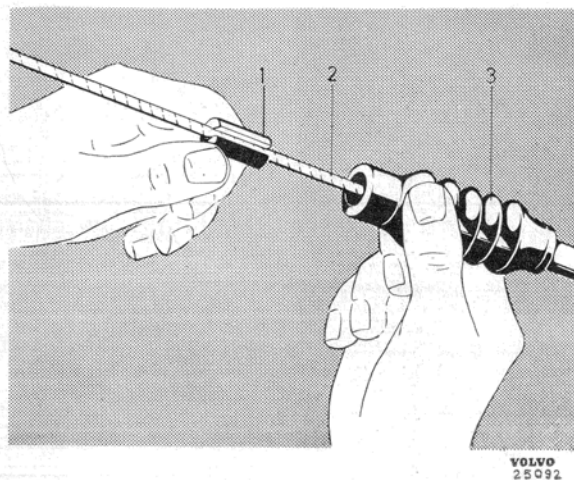

Fig. 35. Fitting rubber casing.
The new casing is placed in position on the cable over the spring and outer casing respectively and the parts are put together. The slotted sealing plug (1, Fig. 35) is fitted on the cable (2) and pressed into the rubber casing (3). Fit the hub and wheel, see point 3 under "Fitting brake cables without outer casings".